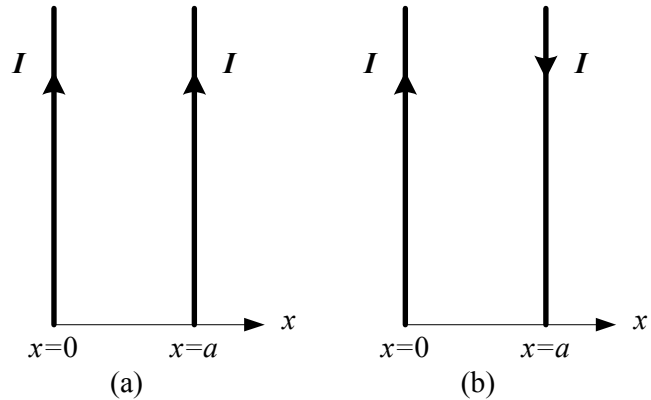

Figure 2: Two parallel straight conductors with (a) currents in same directions (b) currents in opposite directions
where *a* is the distance between the conductors. Equation (2) applies to the case when the currents flow in the same direction and equation (3) applies when the currents flow in the opposite directions as shown in figures 2 (a) and (b) respectively.